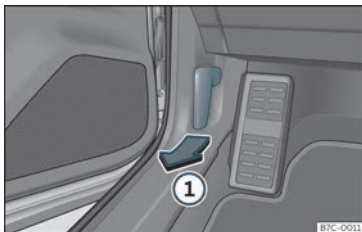

Fig. 254 Release lever in the driver's footwell area.
- Open the door and pull the lever under the dashboard >>> Fig. 254 ①.